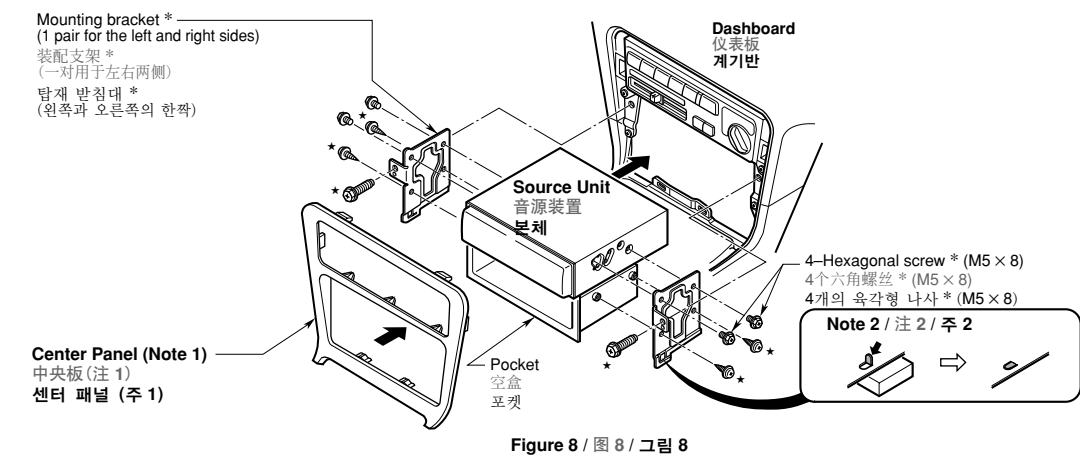

Figure 8 / 图 8 / 그림 8
- 1. Secure the mounting brackets to the chassis as shown in Figure 8. When the source unit is installed without the universal mounting bracket, holes exist; modification, such as drilling new holes, of the mounting brackets may be required for other models.
本机用于固定安装在仪表盘上。如果汽车装备有出厂时安装好的收音机, 请用带星号(*)的零件和螺丝安装音源装置。(图8)
- 1. 如图8所示, 将装配支架固定在底盘上。在不使用通用装配支架的情况下安装主机时, 有现成的安装用孔, 其它车型可能需要改造装配支架, 如钻出新孔等。